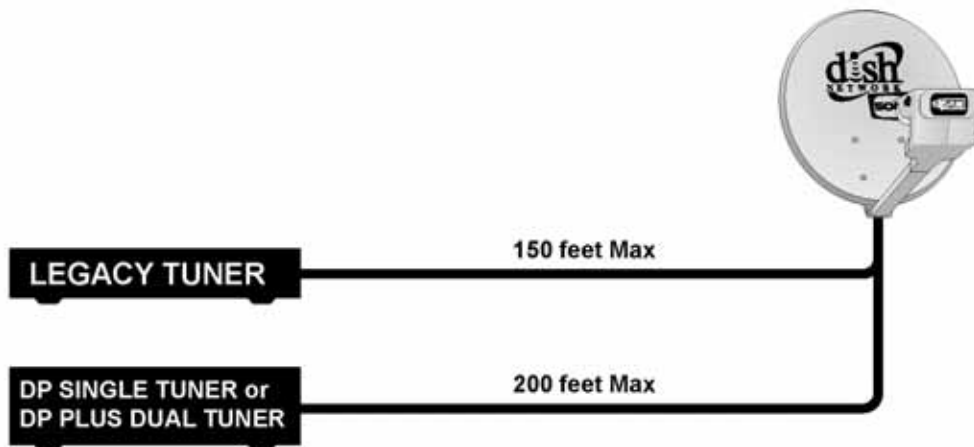

Figure 13. Cable Length Limitations
- Refer to Figure 13 on page 16 and the following for cable length limitations: